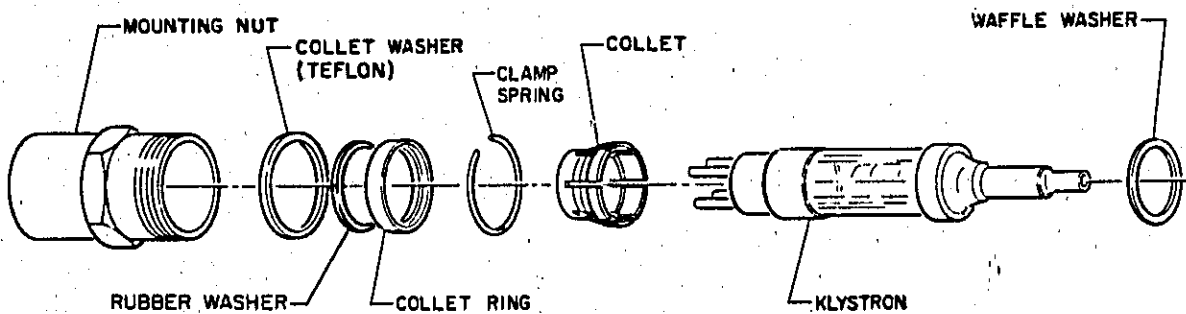

Figure 5-16. Exploded View of Klystron Mounting Parts (620B)
The klystron is located at the left side of the instrument just behind the front panel. Refer to Figure 5-16 and proceed as follows:
- a. Insert waffle washer in cavity (Figure 5-16). Use new washer if old washer is damaged.